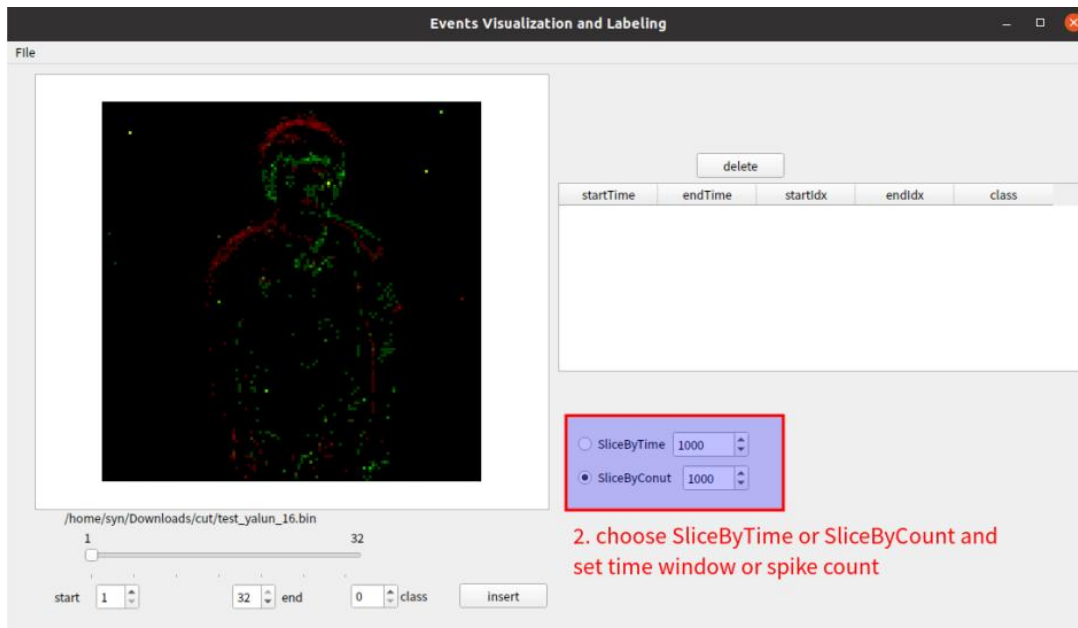

Figure 16: DVS tool slicing setting
2. Choose slicing method to set framing visualization performance(Figure 16).